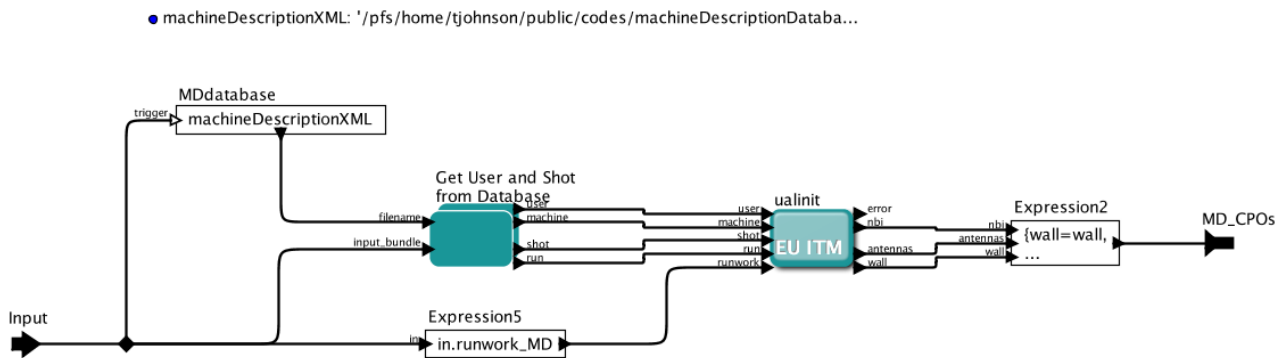

Figure 6. The UAL_read_machine.description_CPOs composite actor, part of UalGetCpoBundle .
- This third actor (see figure 6 and 7) first identifies the relevant triplet of `UserId/Shot/Run` to be used when reading data from the machine description database. This procedure uses an xml-document from the `md_and_dm` -repository that related e.g. JET shot 77922 with a certain set `UserId/Shot/Run`. Once this triplet is known the `UALInit` is called and its output is finally bundled.